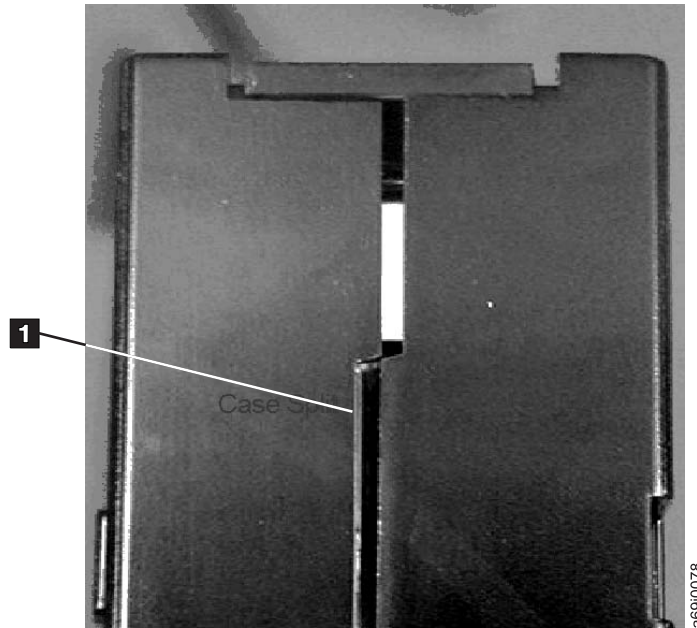

Figure 4-4. Checking for gaps in the seams of a cartridge
- Inspect the rear of the cartridge (the part that loads first into the tape load compartment) and ensure that there are no gaps in the seam of the cartridge case (see **1** in Figure 4-4 on page 4-8 and **4** in Figure D-2 on page D-2). If there are gaps in the seam (see Figure 4-4 on page 4-8), the leader pin may be dislodged. Go to Appendix D, “Repairing a Cartridge,” on page D-1.
3. Inspect the rear of the cartridge (the part that you load first into the tape load compartment) and ensure that there are no gaps in the seam of the cartridge case (see **1** in Figure 4-4 on page 4-8 and **4** in Figure D-2 on page D-2). If there are gaps, the leader pin may be dislodged. Go to Appendix D, “Repairing a Cartridge,” on page D-1.